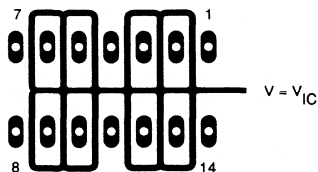

FIGURE 4. ISOLATION METAL AROUND DEVICE INPUTS (N AND J DUAL-IN-LINE PACKAGE)
- 1 Isolate the device from other potential leakage sources. Use a grounded shield around and between the device inputs (see Figure 4). Leakages that would otherwise flow to the inputs will be shunted away.